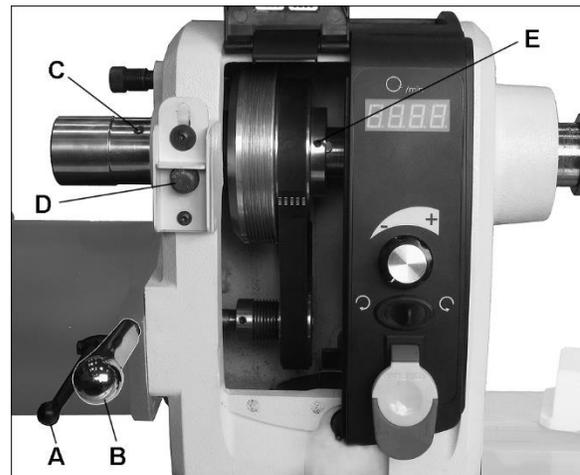

Figure 9-12
The motor and spindle pulleys are aligned with each other by the manufacturer, but if any service is performed that affects their alignment it is very important that they be realigned. Engage spindle lock, loosen two set screws on spindle pulley (E, Figure 9-12) with 3mm hex key, and slide spindle pulley into proper position. Retighten set screws and disengage spindle lock.
See Figure 9-12.
2. Loosen pivot lock handle (A, Figure 9-12) and lift up tension handle (B) to raise motor.
3. Tighten pivot lock handle (A) to secure motor in raised position.
5. Loosen two set screws on handwheel (C).
6. Engage spindle lock (D) and unscrew handwheel from spindle (left-hand threads, clockwise to loosen).
8. If replacing a pulley, loosen both set screws (E), and slide pulley off spindle.
11. Reinstall handwheel (C) and tighten set screws.